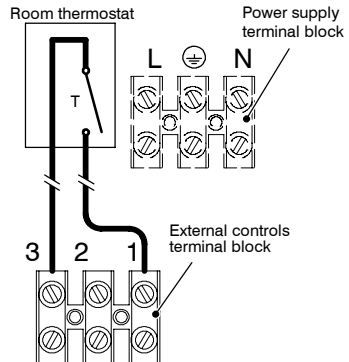

Fig. 6.15
- 8 Connect the room thermostat between terminals 1 and 3 as shown in Fig. 6.15.